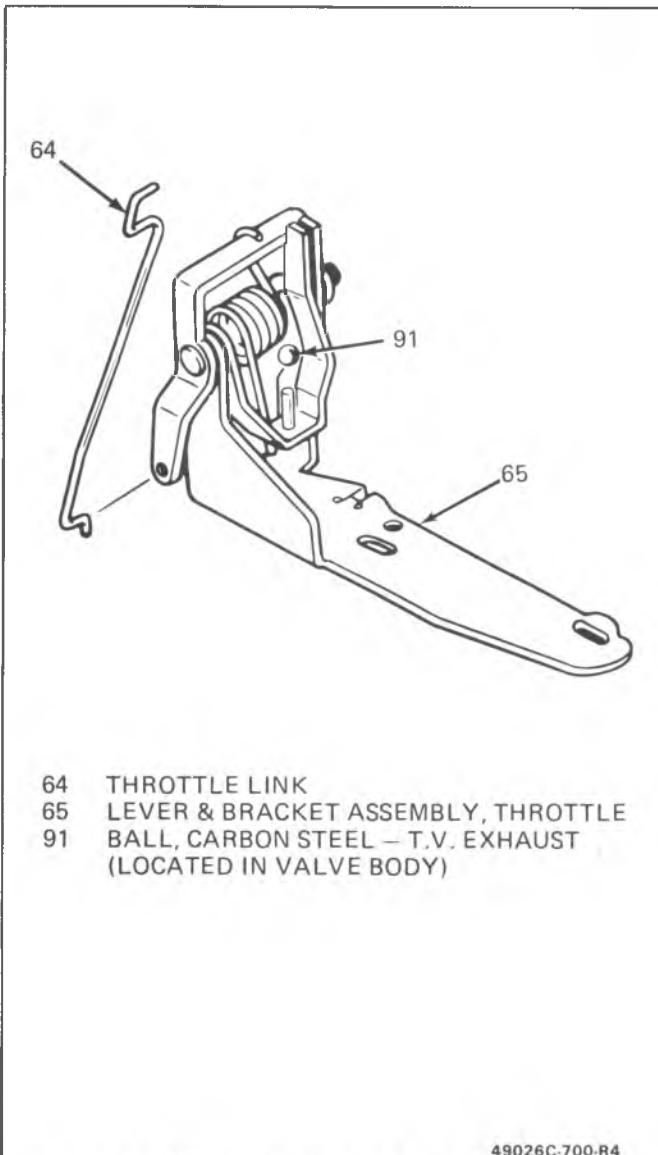

Figure 144 Throttle Lever and Bracket Assembly
**Inspect (Figure 144)**
- The throttle lever and bracket assembly (65) for